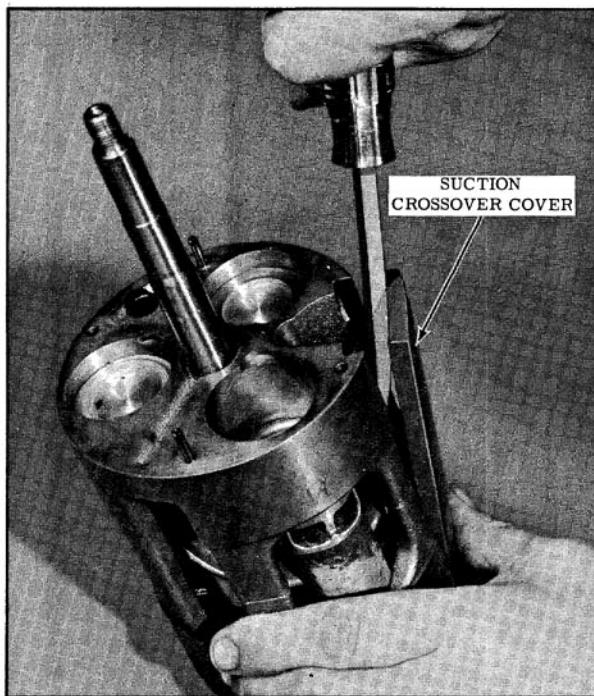

Fig. 14-112 Removing Suction Crossover Cover
1. Remove the suction crossover cover and seal. (Fig. 14-112)